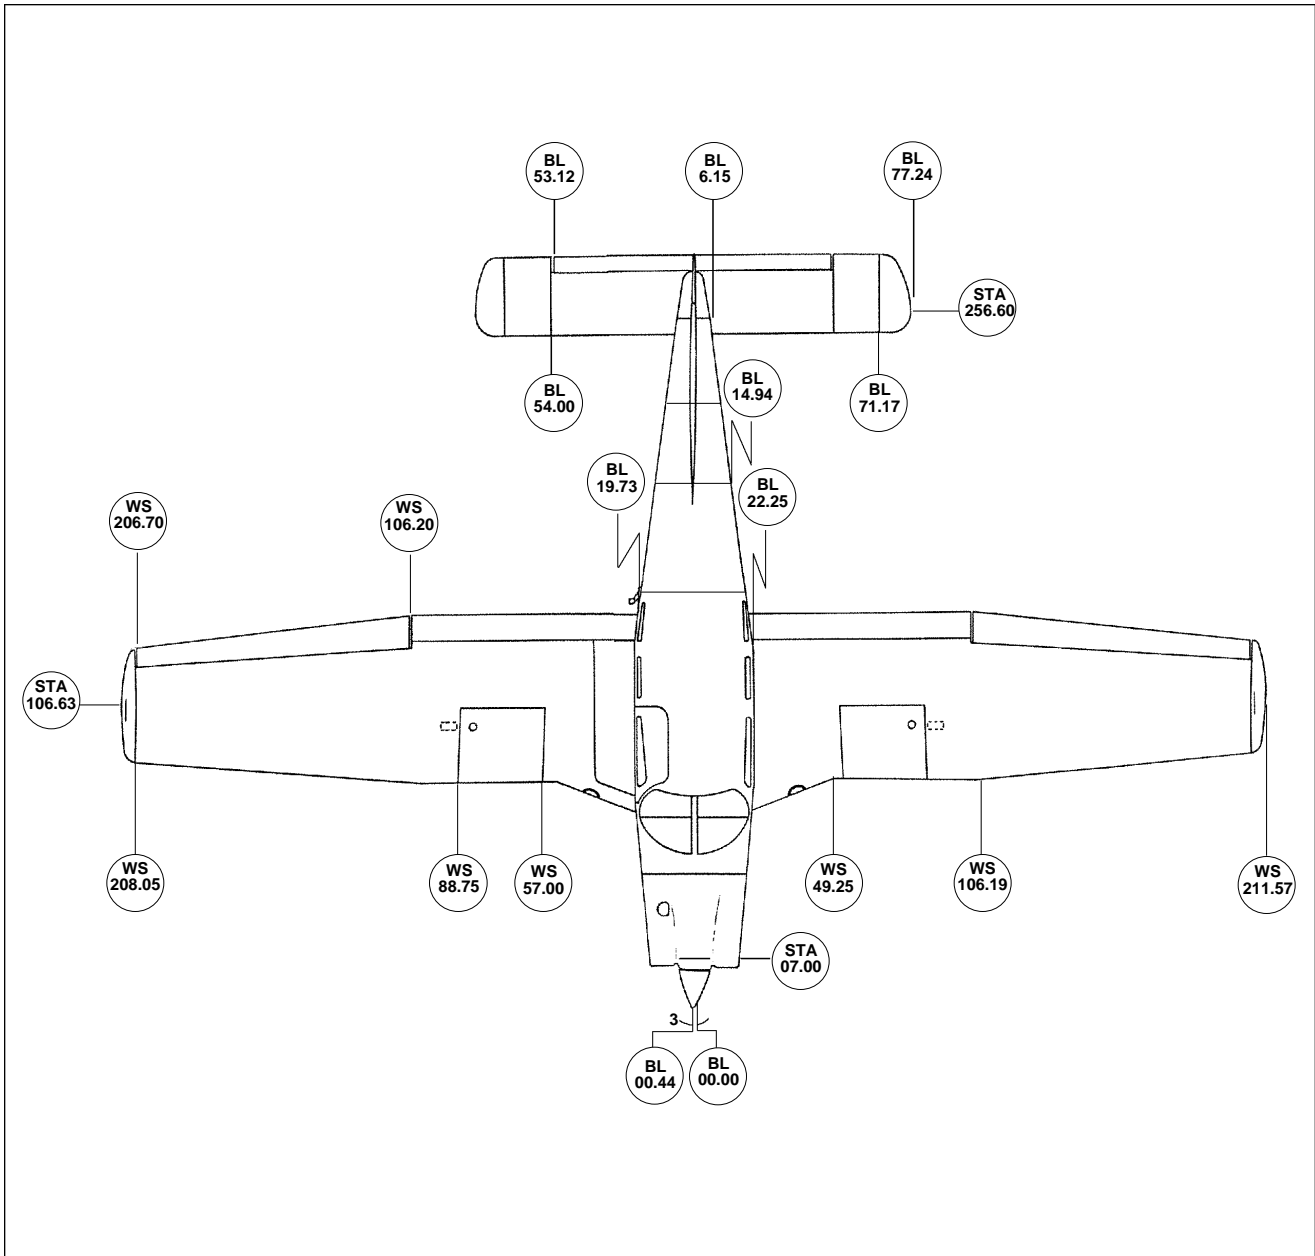

Figure 6-4. Station Reference Lines - Archer III (1 of 2)
Use the following location references to aid in maintenance and servicing the Archer III (refer to Figure 6-4). The fuselage station (Sta), wing station (WS), butt line (BL) and water line (WL) are reference points measured in inches laterally, horizontally or vertically from a given reference line, and show station locations of structural members. Fuselage station 0 is 78.4 inches ahead of wing leading edge at the intersection of the straight and tapered section. Butt line station 0 is the airplane centerline. WL station 0 is 20.5 inches below cabin floor measured at rear wing spar with airplane level.